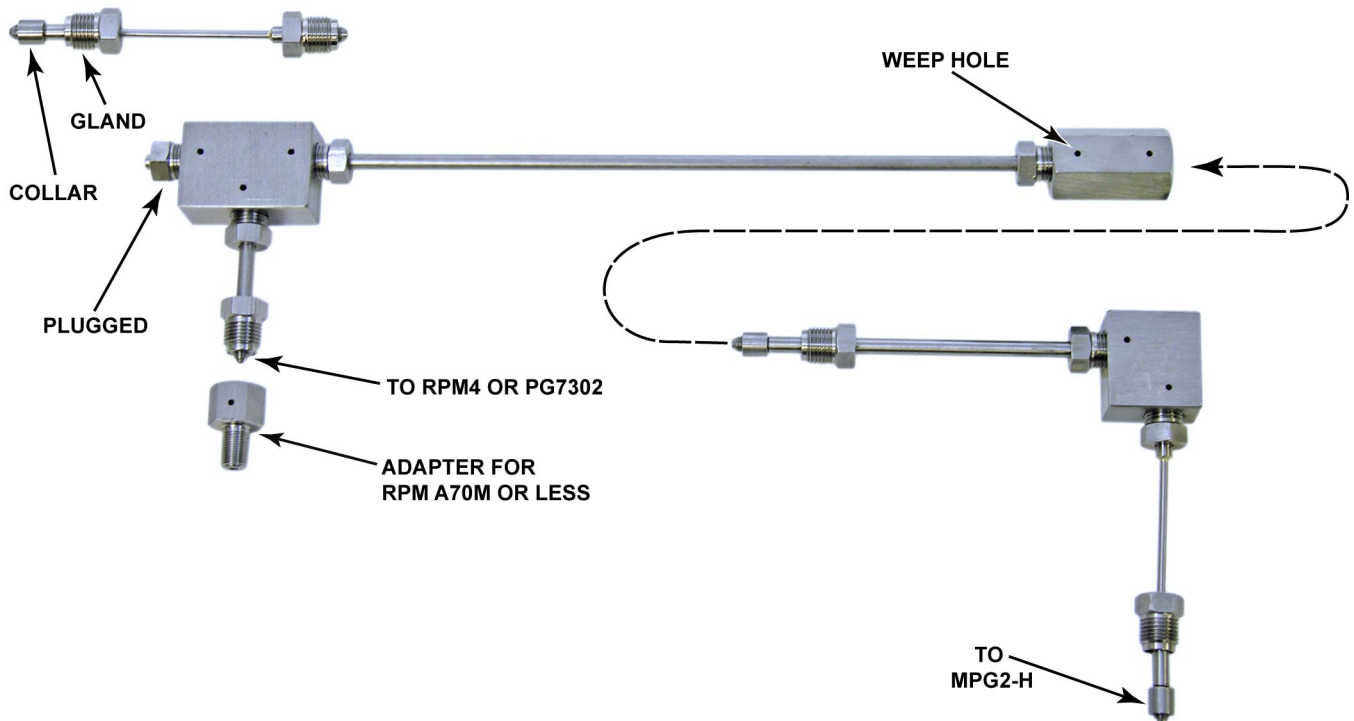

Figure 1: Nipples installed in 3-way tee, elbow and union
- ❹ **Install nipples into three way tee and elbow:** Install the 2.75 in. nipple into the center port of the three way tee. Install the 12 in. nipple (or 6 in. and 12 in. nipple assembly with union) into either of the end ports on the three way tee as shown in Figure 1. Install 5 in. flexible nipple into elbow. Install 12 in. or 6 in. nipple from tee into elbow. Tighten the nipples with a 5/8 in. wrench or crescent wrench. The flexible 5 in. nipple connects to the MPG2-H. The 2.75 in. nipple in the center of the tee connects to the RPM4 or to the PG7302. In Figure 1 the left port is currently plugged, but the remaining flexible 5 in. nipple can be installed in the left port and connect to the DUT.
- ❺ **Optional: Extend the front feet on RPM4:** The front feet of the RPM4 can be extended so that the RPM4 is inclined for easier reading and display access.
- ❻ **RPM4 A70M or less - Install NPT adaptor into RPM4.** RPM4s that have ranges of 70 MPa (10,000 psi) or less have 1/8 in. NPTF test ports. These ports require the use of one of the DH500F by 1/8 in. NPTM adaptors. Wrap Teflon® thread tape around the NPT threads of the adaptor three times, and install the adaptor into the RPM4.
- ❼ **Install the free end of the center nipple into RPM4 or PG7302:** The center, 2.75 in. nipple should be inserted into the test port of the RPM4 or PG7302. Screw in the gland loosely by hand. Do not tighten the gland in the RPM4 or PG7302 yet, since it will be tightened when the system is primed.
- ❽ **Install the 5 in. nipple into the MPG2-H.** Screw in the glands loosely by hand. Tighten the gland with a 5/8 in. wrench or crescent wrench.
- ❾ **Install a DH500M to 1/8" NPT male adaptor in the DUT if necessary:** The 1/8 in. NPT male adaptor can be used to connect the remaining flexible 5 in. nipple to DUTs with 1/8 in NPT female ports. If you intend to use the adaptor,